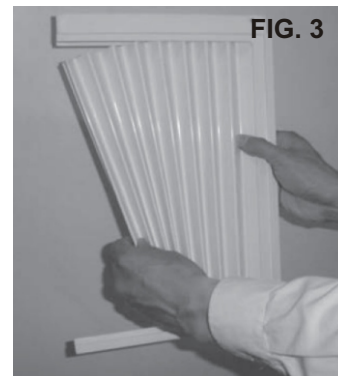

FIG. 3
A. Hold the Accordion Panel in one hand and gently pull back the center to free the open end. See Figure 3.